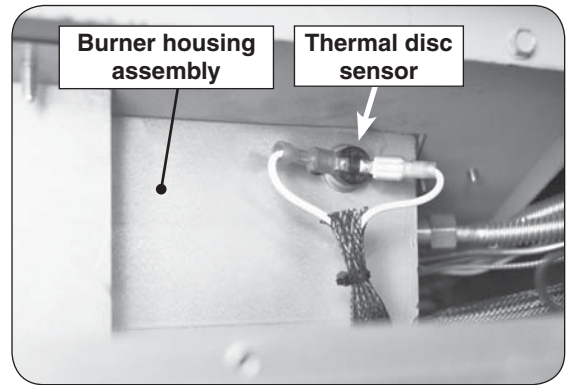

Fig. 2-1 Locate existing thermal disc sensor
3. Locate the existing thermal disc sensor that is attached to the rear wall of the burner housing assembly (see Fig. 2-1).